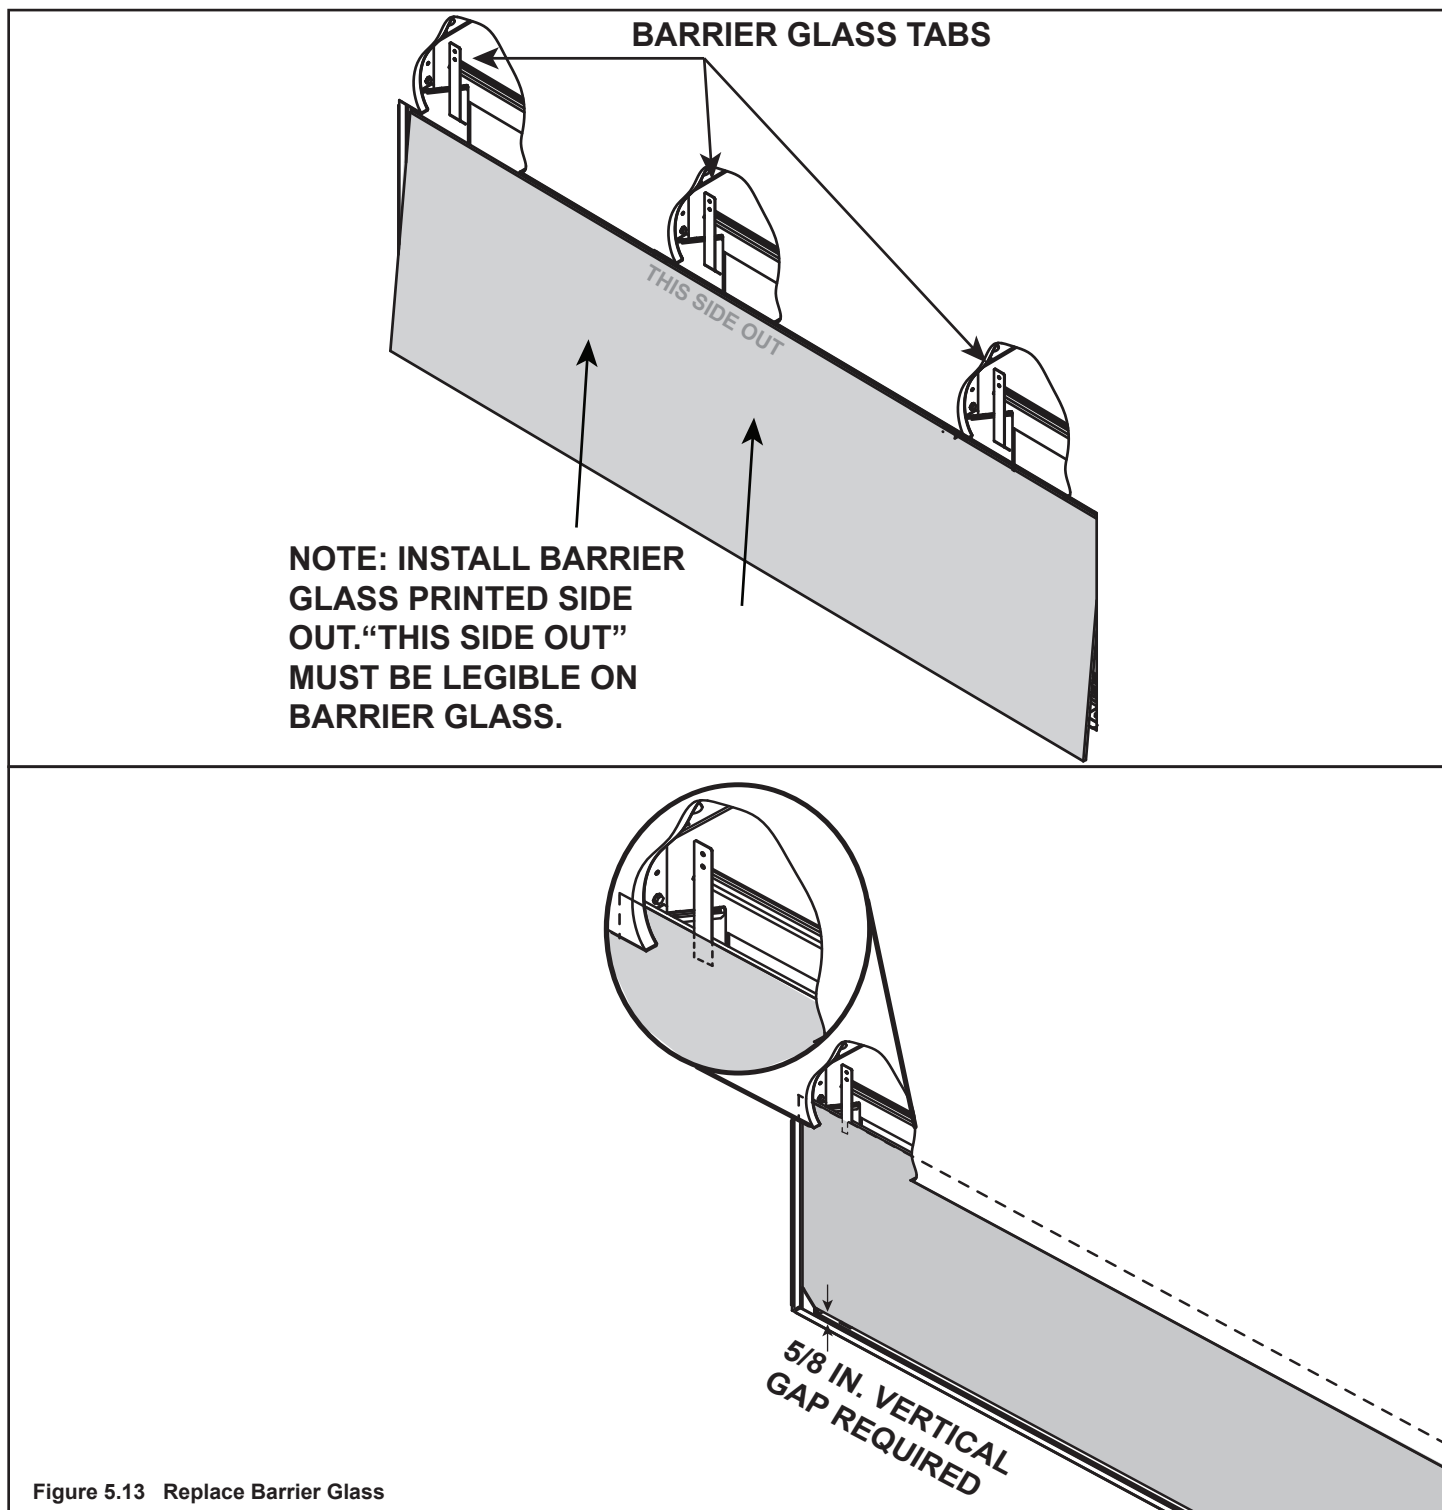

Figure 5.13 Replace Barrier Glass
2. Tilt glass and slide glass between finishing material and barrier glass tabs. See Figure 5.13.
When barrier glass is installed, a vertical gap of approximately 5/8 inch is formed between the bottom of the glass and the transition media tray. This gap allows adequate air flow through the appliance. See Figure 5.13.
Barrier glass must be installed between the finishing material and the barrier glass tabs. If not installed correctly, appliance will not operate as intended. See Figure 5.13.